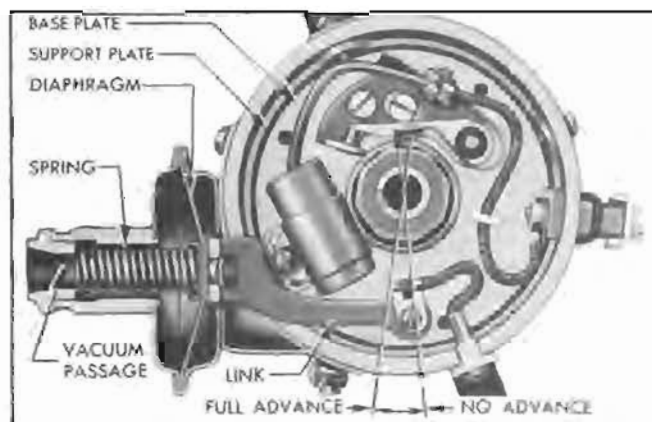

Figure 10-58—Vacuum Advance Mechanism
3. *Vacuum Controlled Advance* is governed by manifold vacuum during part throttle operation. The contact points are mounted on a base plate which is supported by three bakelite buttons or bearings upon a stationary support plate in distributor housing. The base plate is held to the support plate by a retainer washer seated in a groove of base plate hub, which serves as a bearing to permit the base plate to rotate on the support plate. The base plate and attached contact points can be rotated around the distributor cam by the link of the vacuum control mounted on the side of distributor housing. See figure 10-58.